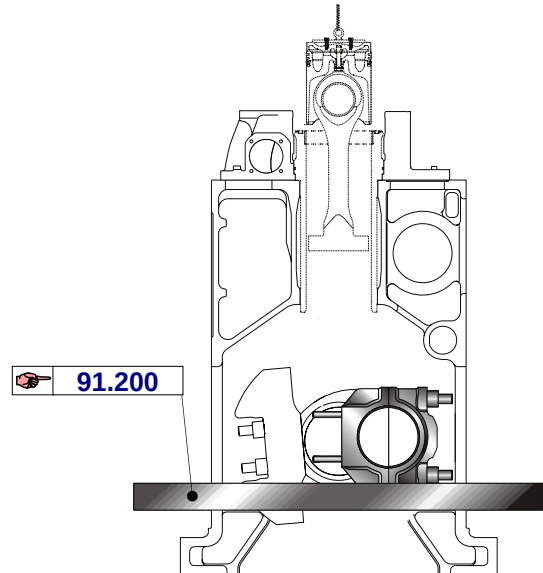

Fig.6 Installing of guide support
3. Install guide support on bottom of the engine as shown in fig. 6.